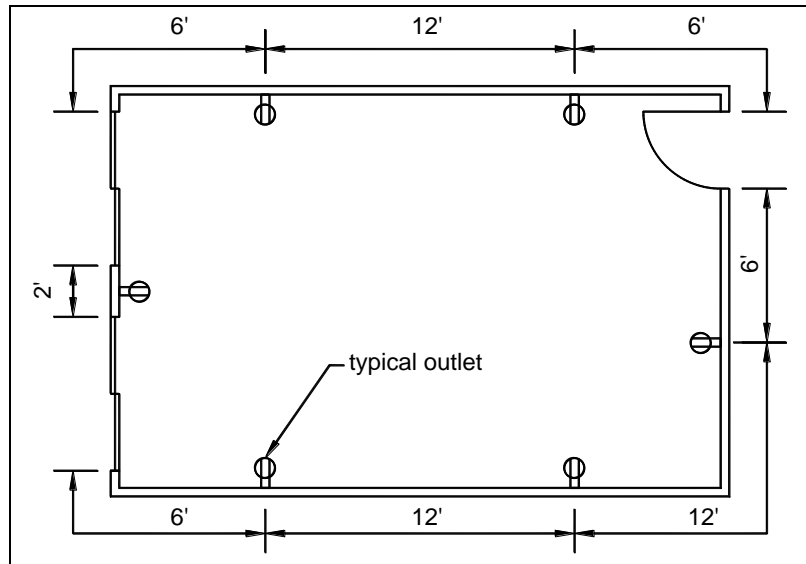

FIGURE 9: TYPICAL OUTLET DISTRIBUTION
- Outlets shall be placed in accordance with FIGURE 9.